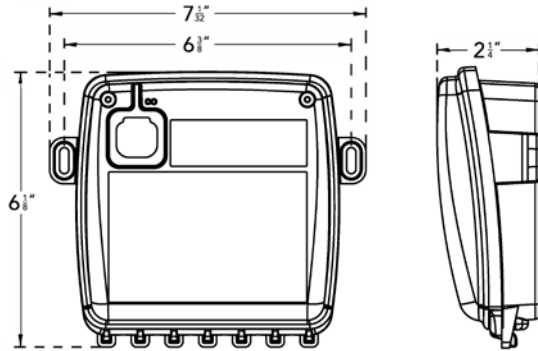

**Figure 3**
**Figure 3** shows the colors (purple, white, blue, red, and yellow) used between each ChromaSteam3 connection.
**Figure 3** shows how the ChromaSteam3 fixture and control box interconnect with each other, and with the steam generator and iSteam3.